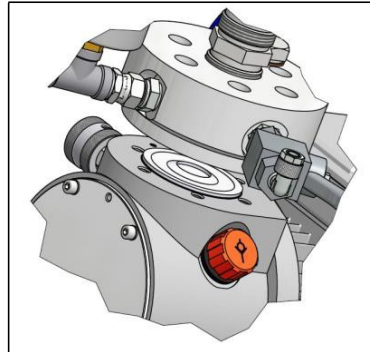

Fig.10.1.5
3. (Fig.10.1.5) Valve block can now be upwardly removed. It is important to make sure that the sealing disk of the valve block is not lost.